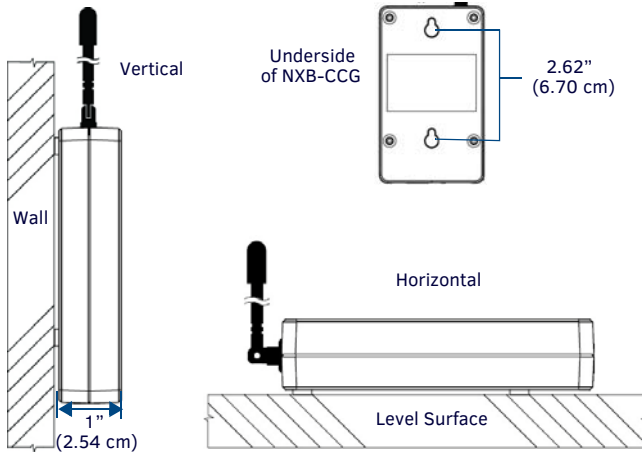

FIG. 3 INSTALLATION DIAGRAM
- Mount vertically or horizontally (FIG. 3), using two #6 (M3) screws. When mounting, allow 7 in (177.8 mm) clearance for the antenna and ensure convenient access to the power plug. In order to achieve proper RF performance, do not mount unit in a metal enclosure.